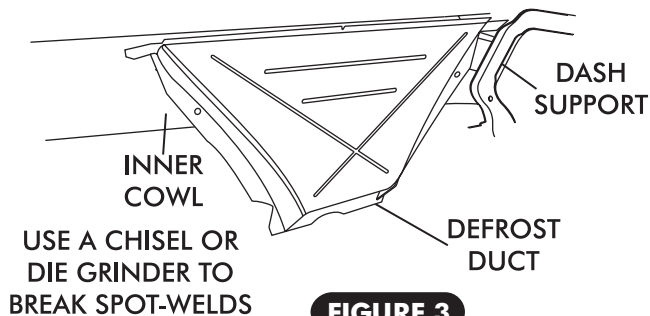

FIGURE 3
- ☐ REMOVE O.E.M DEFROST DUCT ASSEMBLY, SEE FIGURE 3 BELOW.
SEE FIGURE 3 BELOW.